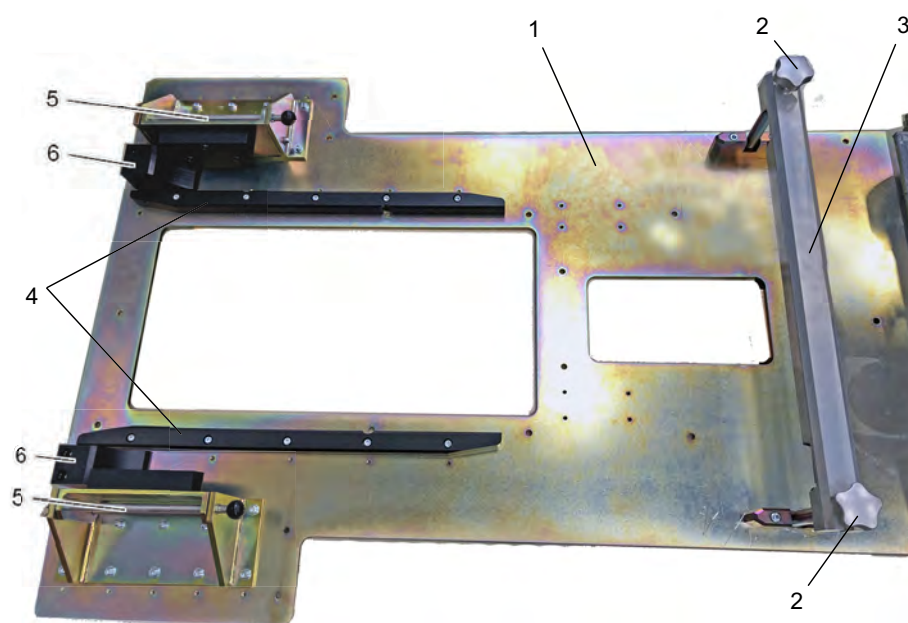
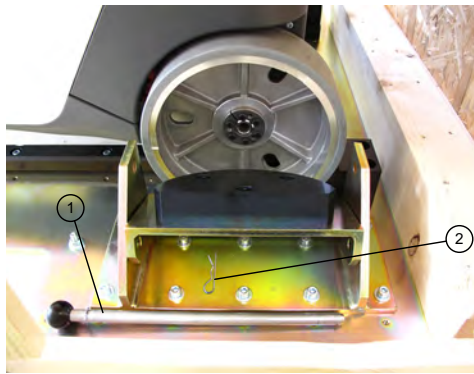

Fig. 8-11 Transport plate for fixing the device in the truck
Fig. 8-13 Wheel clamp with pin and splint
- Push the MODULITH® SLK onto the plate with the large wheels in front until both front wheels touch the wheel stops (**FIG. 8-11 /6**).
- Close the wheel clamps, lock them with the pin (**FIG. 8-11 /1**) and secure the pin with the splint (**FIG. 8-13 /2**).